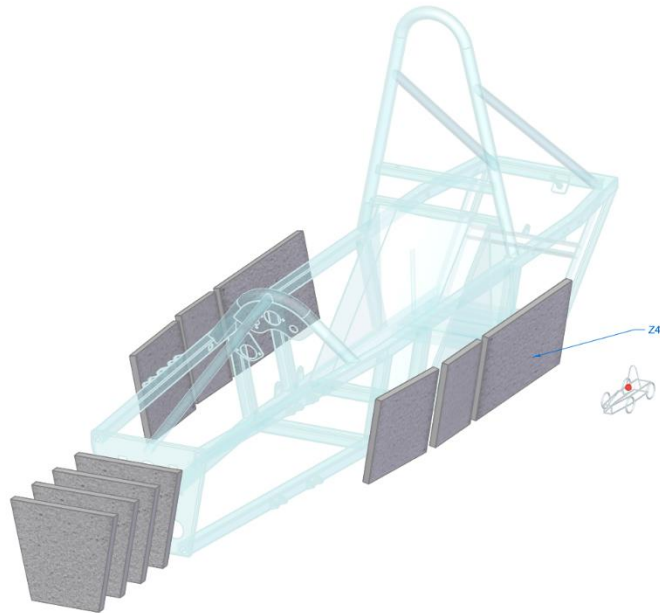

Figure 7.4.3
3. To install the side padding, cut the foam to fit within the side frame sections of the car cab and duct-tape it to the frame. See figures 7.4.3 and 7.4.4.